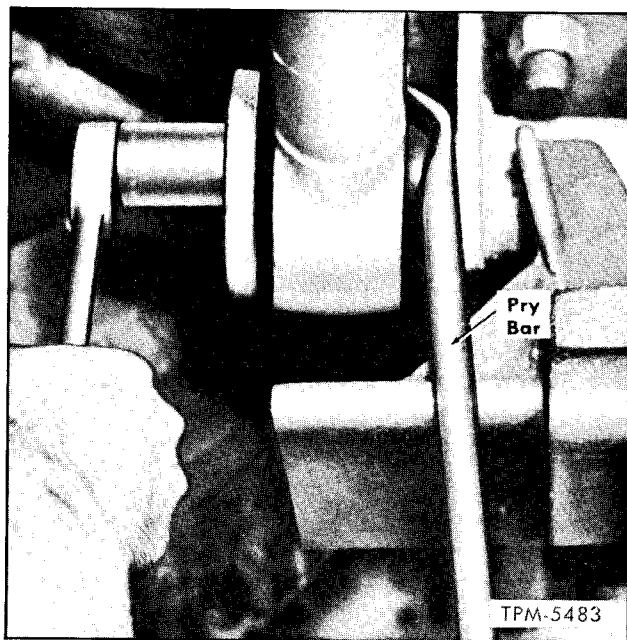

Figure 10—Tightening Radius Rod Cap Screws
3. At axle, use a pry bar to force radius rod end out toward anchor pin washer (fig. 10) while tightening anchor pin cap screws. Do not pinch